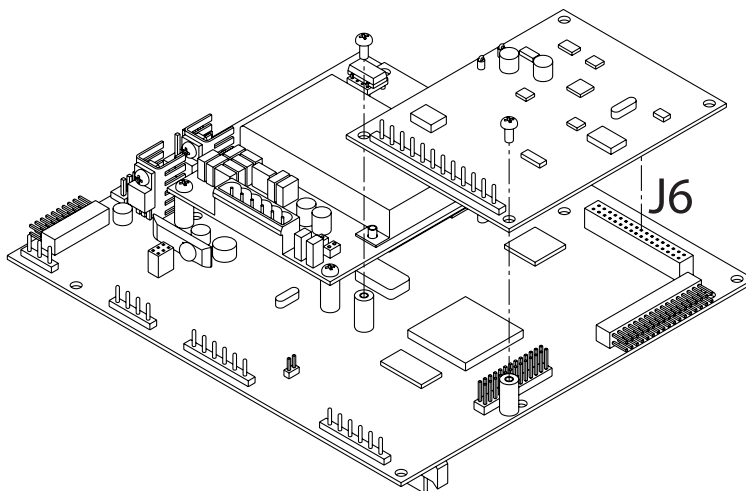

Figure 1. Installing Option Card onto 920i CPU Board
4. Use the screws and lock washers provided in the option kit to secure the other end of the option card to the threaded standoffs on the CPU board (see Figure 1).